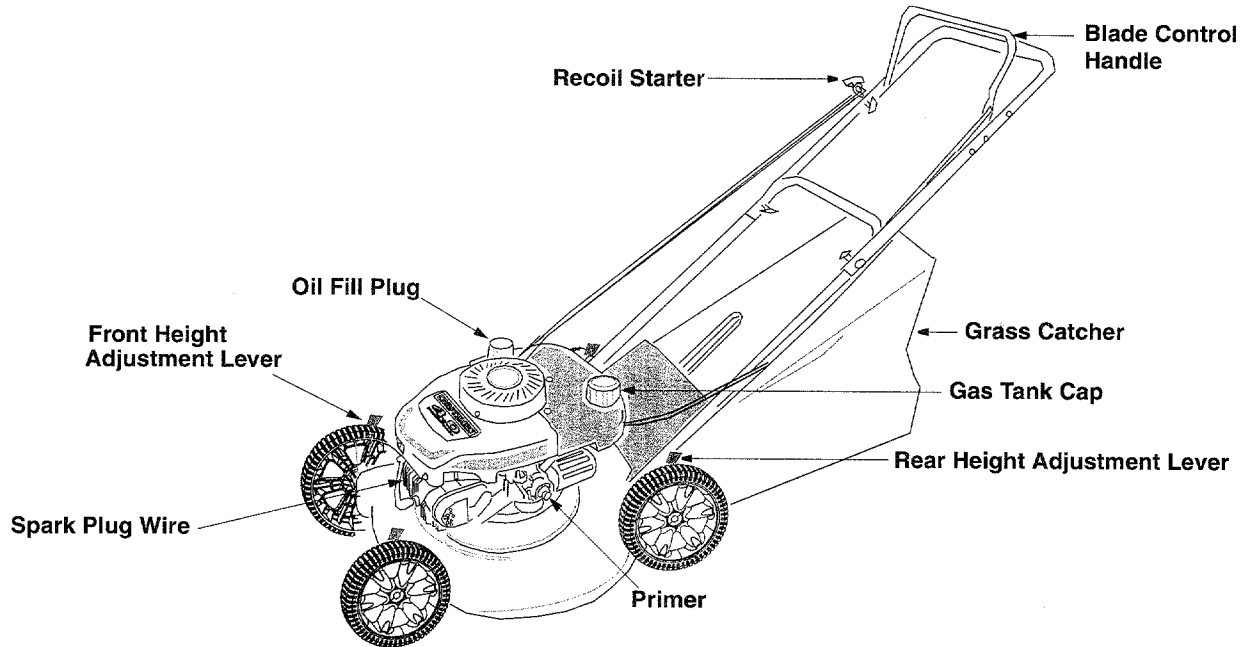

Figure 8
Read this owner's manual and safety rules before operating your lawn mower. Compare the illustrations in Figure 8 with your lawn mower to familiarize yourself with the location of various controls and adjustments. Save this manual for future reference.
- Clean area around gas tank cap. For location, see Figure 8. Remove cap.